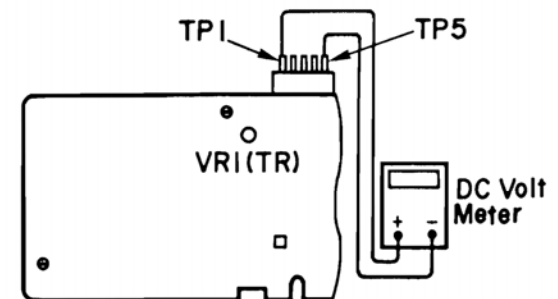

Figure 21
1. Remove the bottom cover according to disassembly instruction (B).
2. Insert the test connector to the 5-pin plug (CN4) of the Control P. C. Board and connect a DC voltmeter between TP1 and TP5 of the test connector as shown in Figure 21.